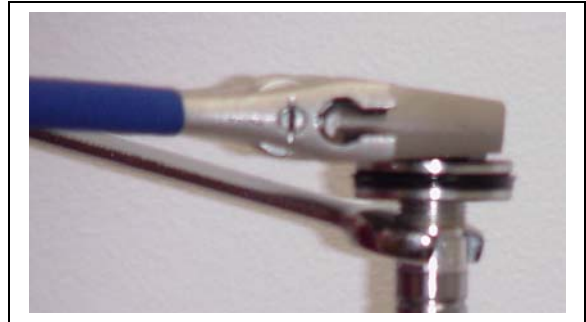

Figure 8
2. Refer to Figure 8 for wrench placement. Hold the 12mm wrench in place on the flats that are on the piston seat and turn the piston with the adjustable wrench in a counter clockwise motion to unscrew the piston from the shaft.